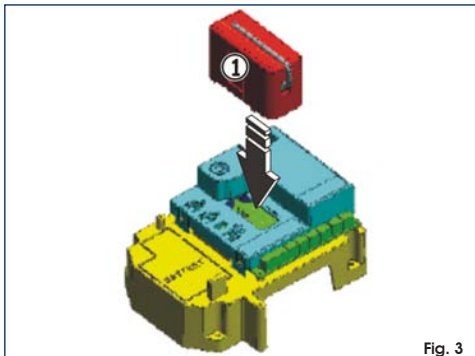

Fig. 3
The control board has an integrated 2-channel decoding system. This system makes it possible to memory-store both total opening (OPEN A) and partial opening (OPEN B) of the automated system - this is made possible by an additional receiver module (fig.3 ref. ①) and radio controls on the same frequency.